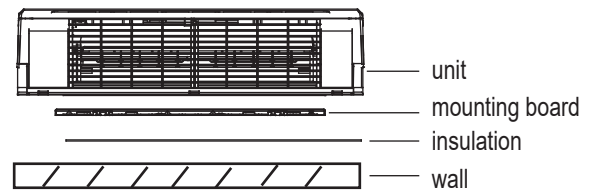

fig. 4
- Carry out the installation respecting the sequence between the various components as illustrated in "fig. 4".